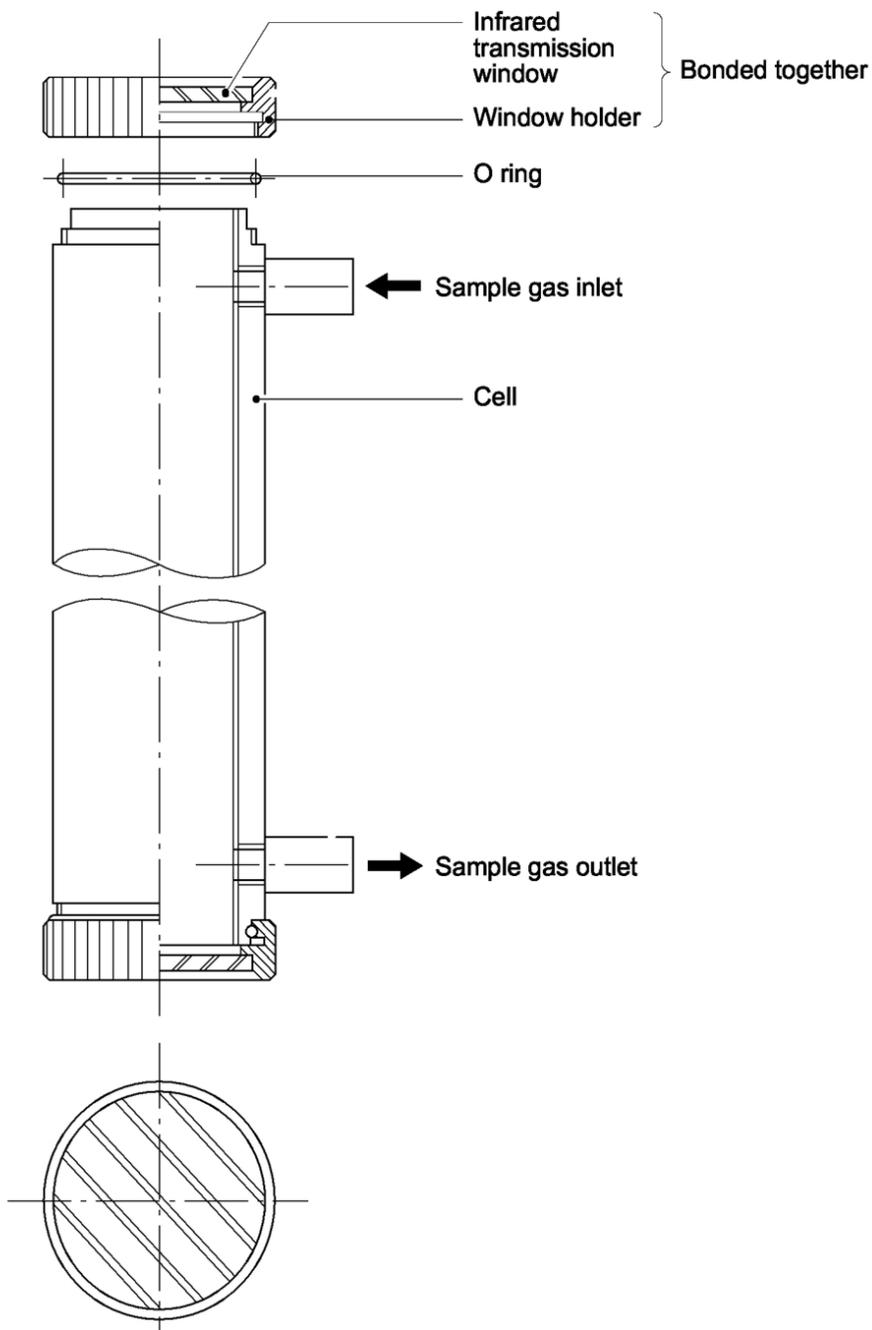

Figure 4-3: Sample Cell
5. Turn the sample cell window to the left and remove it from the sample cell. See Figures 4-3 and 4-4.